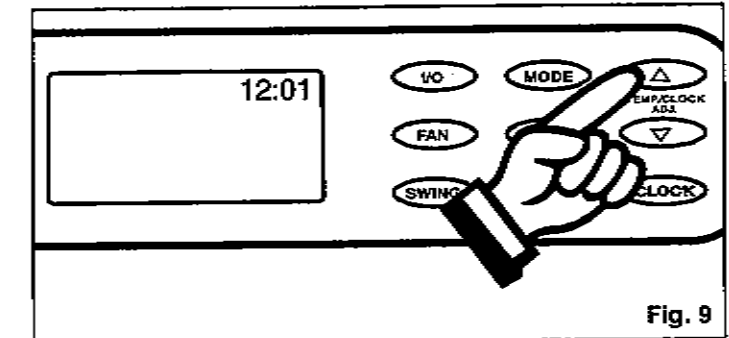

Fig. 9
- 2) Push either the Δ or ∇ key pad, to enter the correct time of day. Each depression of the key pad will increase or decrease the time of day setting (1 minute increments). *Fig. 9.*